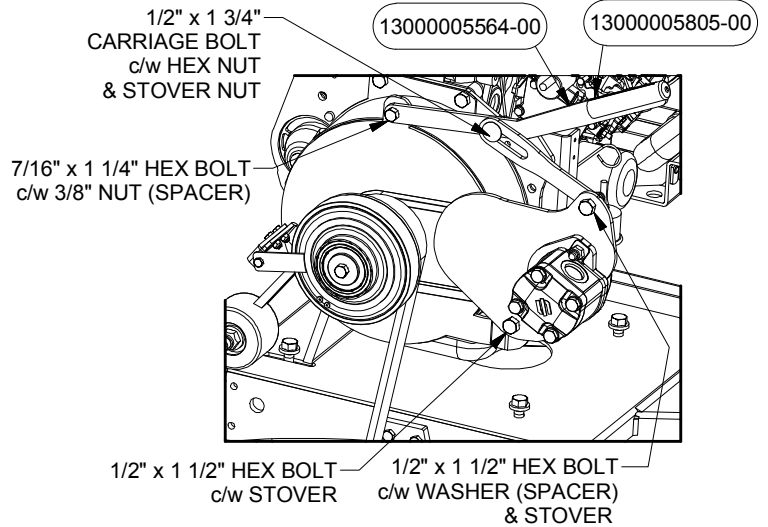

FIGURE 9
9. Mount the assembly to the Bell Housing for the Isuzu as shown in Figure 9. Mount the assembly to the Engine and Motor Mount for the gas as shown in Figure 10. Fasteners are found in Bolt Bag PN# 6054.